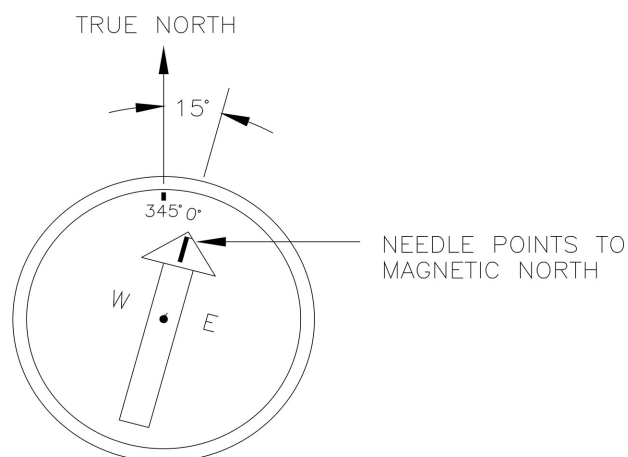
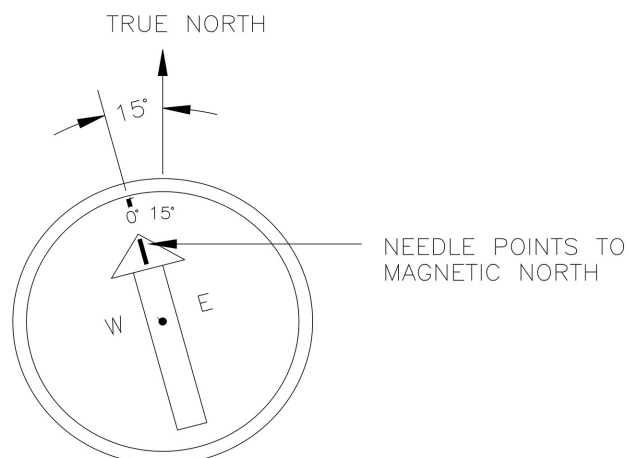

FIGURE B-2. Declination angles east of true north are subtracted from 360 to get true north
FIGURE B-3. Declination angles west of true north are subtracted from 0 to get true north
Declination angles east of true north are reported as positive values, and are subtracted from 360 (0) degrees to get true north as shown in FIGURE B-2 (p. 65). Declination angles west of true north are reported as negative values and are subtracted from 0 (360) degrees to get true north as shown in FIGURE B-3 (p. 65). Note that when a negative number is subtracted from a positive number, the resulting arithmetic operation is addition.